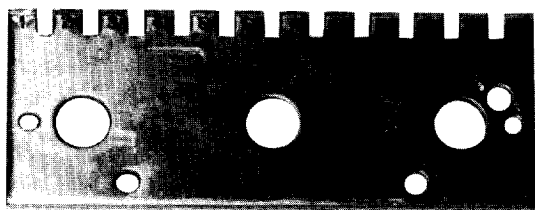

Fig. 20 Interference Interlock Plate
- (a) Mount interference interlock plate (Fig. 20) on .375" x .875" (9.250mm x 22.225mm) studs with three (3) .375" (9.250mm) bolts, with flat washers and lock washers.